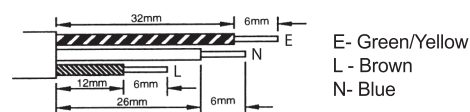

Fig 1.
2. Prepare cable as shown in Figure 1